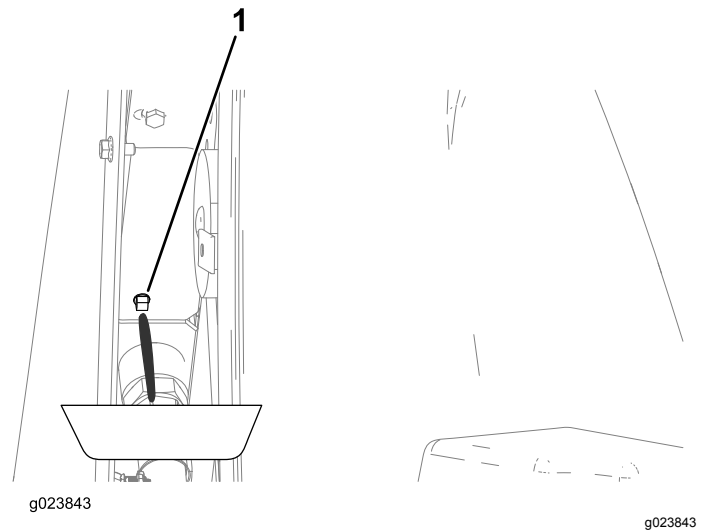

Figure 111
4. Place a drain pan under the drain plug (Figure 111).
7. Close the drain plug (Figure 111).
- C. Close the drain plug (Figure 111).
- H. Close the drain plug (Figure 111).